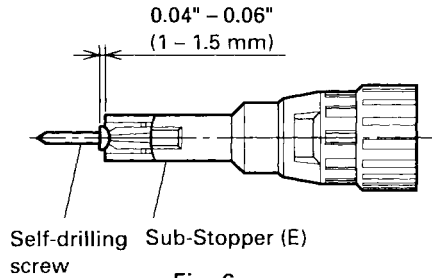

Fig. 6
(3) For cross-recessed self-drilling screws (Fig. 6)